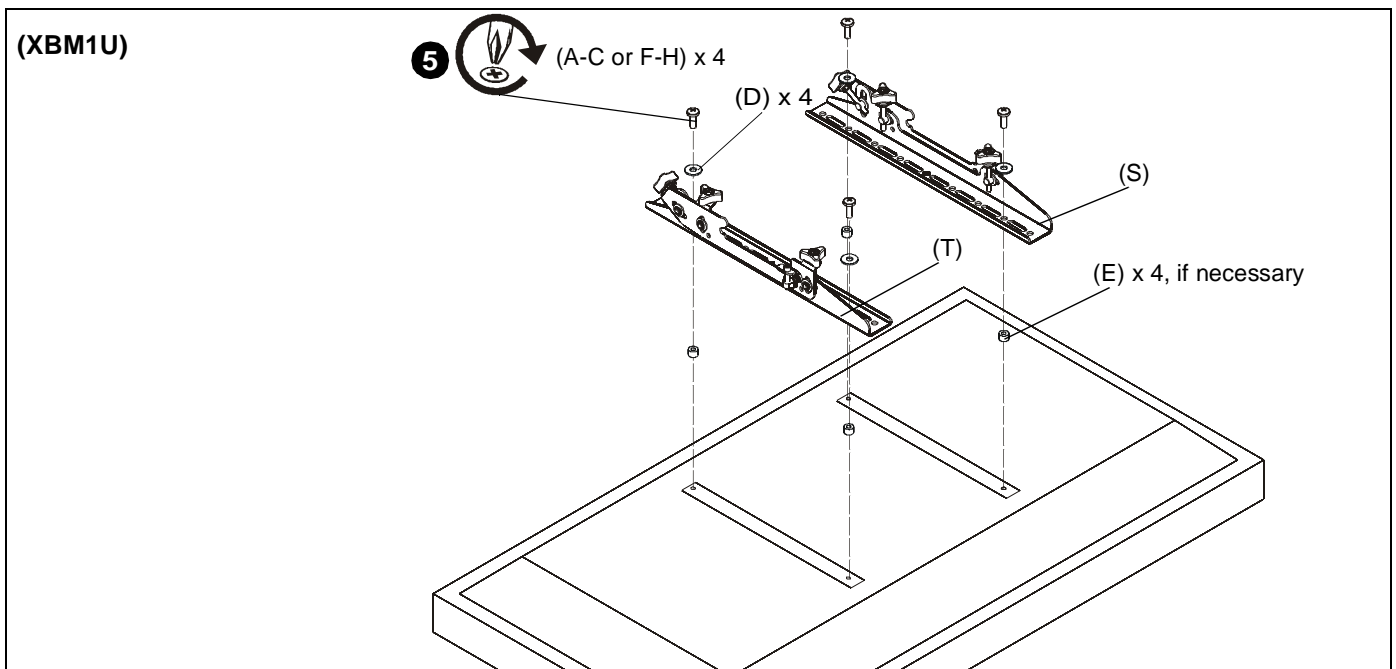
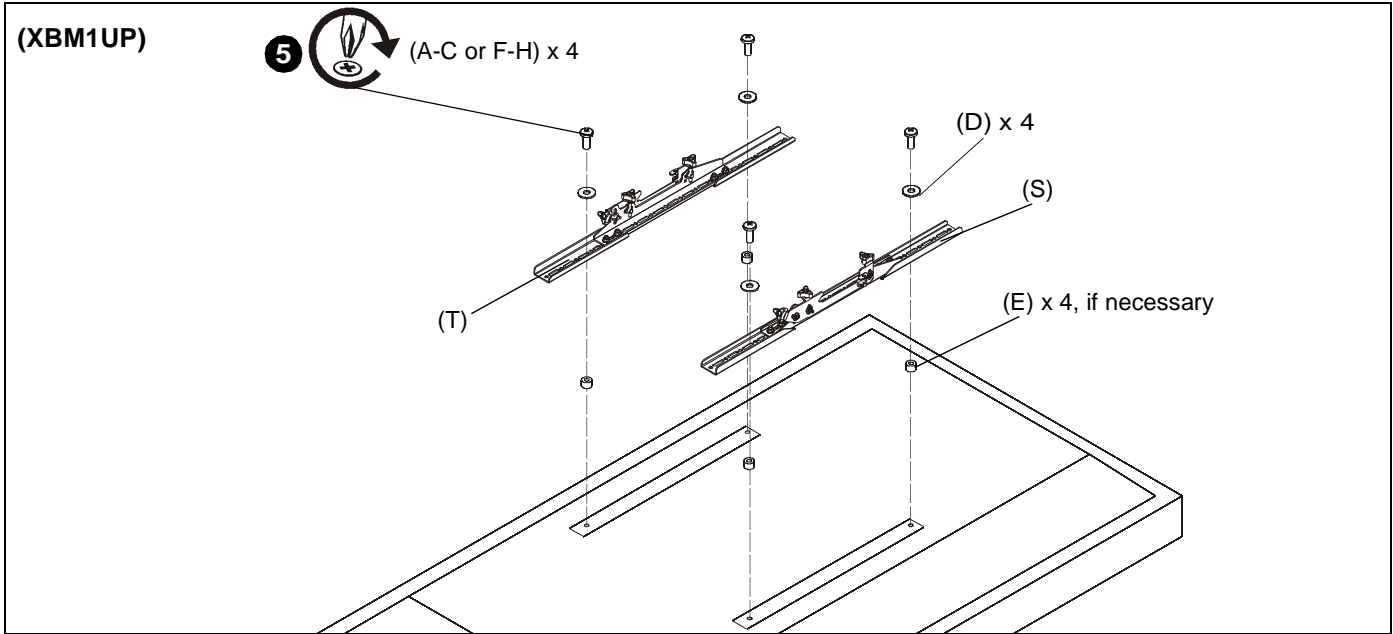

Figure 9
Figure 10
2. Select screw *diameter* by examining hardware (A-C and F-H) (6mm or 8mm) and comparing with mounting holes on display. (See Figure 9) or (See Figure 10)
- If mounting holes are recessed, or if protrusions prevent brackets (S and T) from laying flat, then spacers (E) must be used.
4. Select screw *length*: (See Figure 9) or (See Figure 10)
- Using your hand, insert **SHORTEST** length screw of selected diameter (A or F) through 1/4" washer (D), bracket (S or T), selected spacer (E, if required), into display mounting hole. Do **NOT** thread screw into hole at this time.
5. Use selected screws (A-C or F-H), washers (D) and spacers (E), if necessary, to connect interface brackets (S and T) to back of display. Make sure diamond on interface brackets is even with center of display. (See Figure 9) or (See Figure 10)